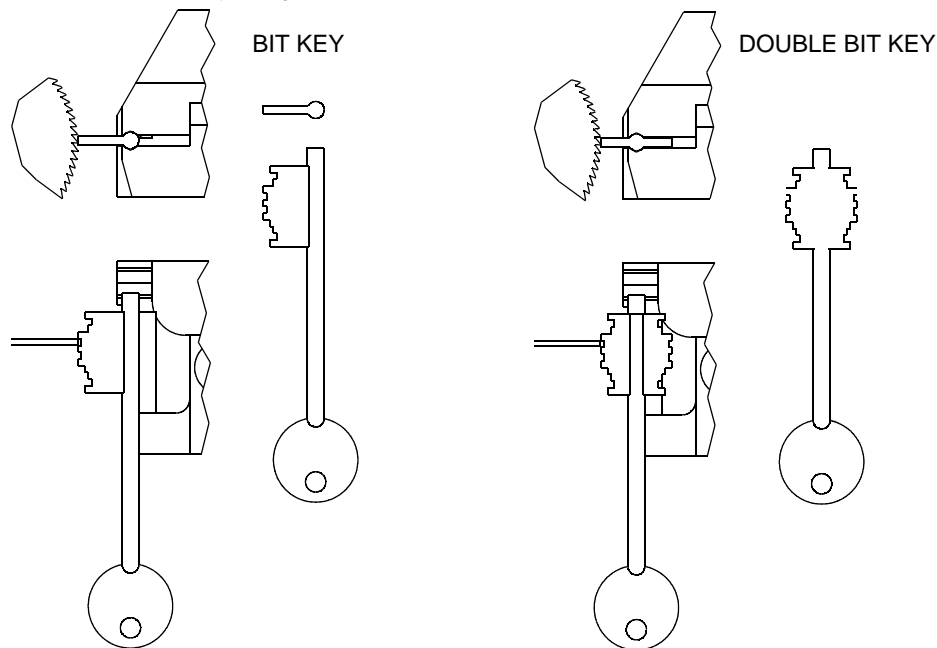
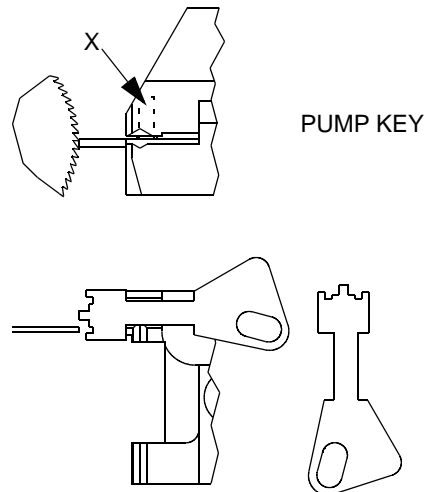

Fig. 16
Fig. 17
- 4) there may be different types of key to cut and therefore different references. The keys are to be positioned in the clamps in the way described in fig.14,fig.15, fig.16 and fig.17.